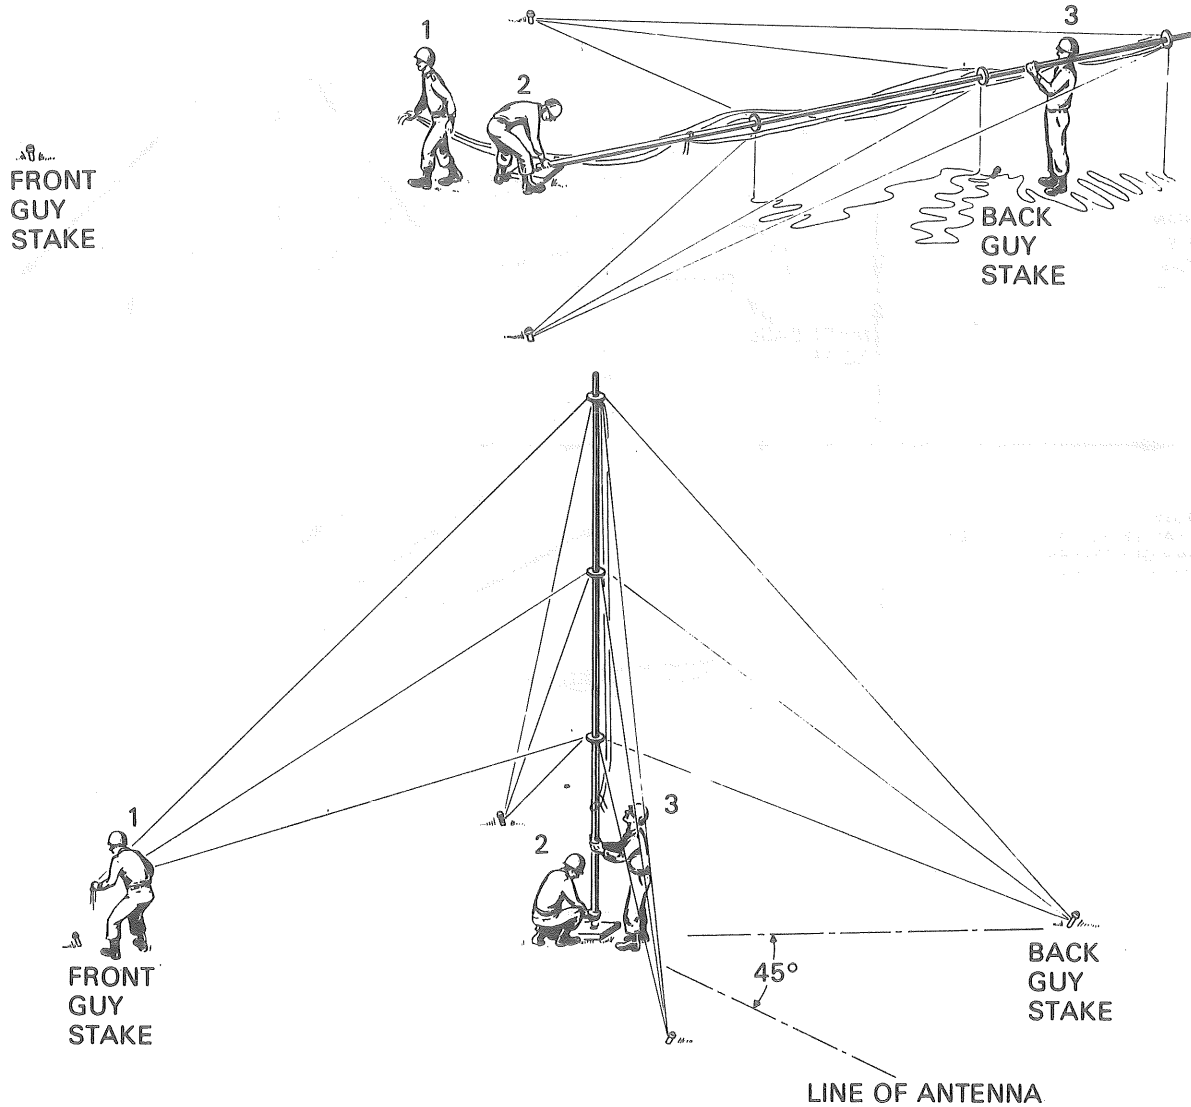

Figure 3. Raising assembled Mast AB-155(*)/U.
4. Check antenna to insure it is erected properly. (Refer to fig 3, and TM 11-5820-256-10, para 2-6d; and TM 11-5815-334-12, para 2-8.)